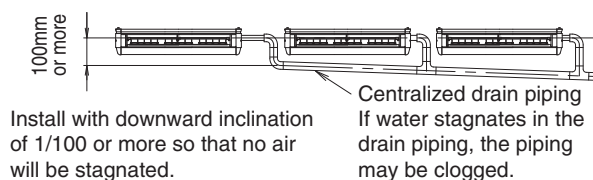

Fig. 28
- To avoid the attached drain hose (1) getting excessive force, do not bend nor twist it. (It may cause water leakage.)
- When conducting the centralized drain piping, follow the instructions in Fig. 28. For the diameter of the centralized drain piping, select the diameter matching the capacity of the indoor unit to be connected. (Refer to technical guidebook.)